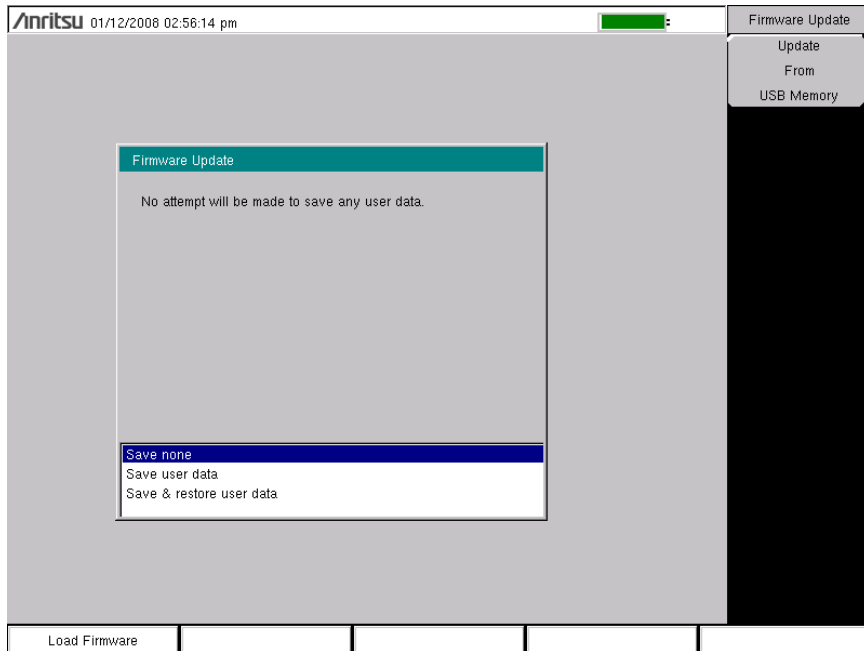

Figure 6-7. Firmware Update Menu
4. Press the Update Application Firmware submenu key, and the Firmware Update dialog opens (Figure 6-7).